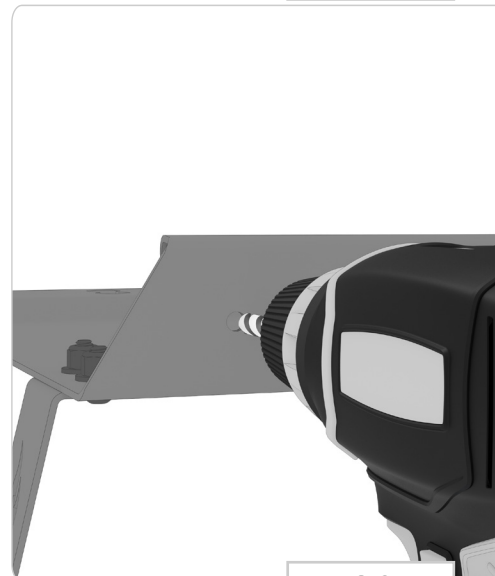

FIG 21
**6.3 Drill Mounting Holes:** Remove the **Curtain Rod** and drill through the **Headliner Shelf Flange** in the locations marked from the last step (FIG 21).